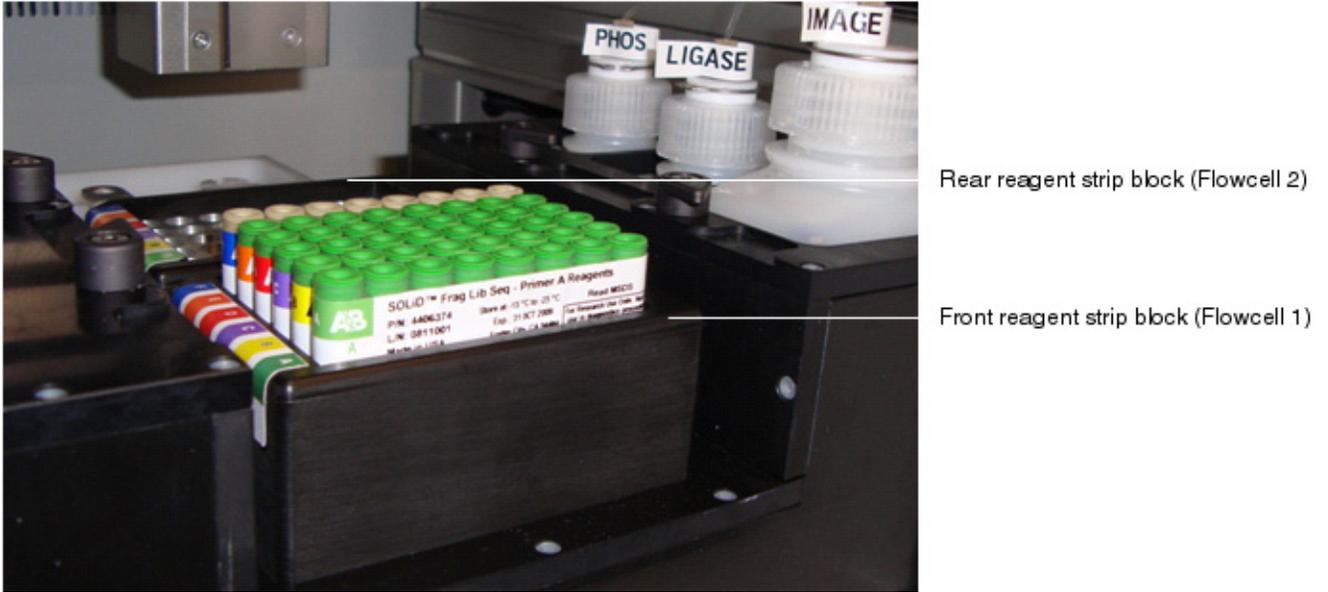

Figure 31 Position of the sequencing reagent blocks for flowcells 1 and 2.
- When the temperature is less than 10 °C, place the reagents in the appropriate location in the chiller block (see Table 7 and Figure 31 on page 39).